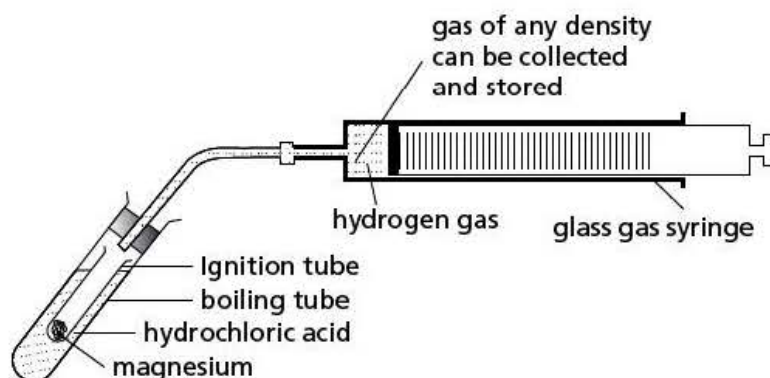

Figure 1
- 8 Collect the gas in a syringe, as shown in Figure 1.